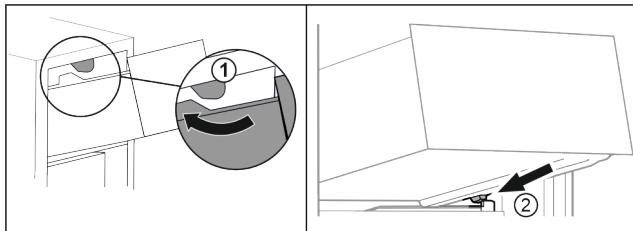

Fig. 65
- Guide drawer around the upper stoppers. Fig. 65 (1)
- Place drawer at an angle behind the lower stoppers onto moulded rib. Fig. 65 (2)